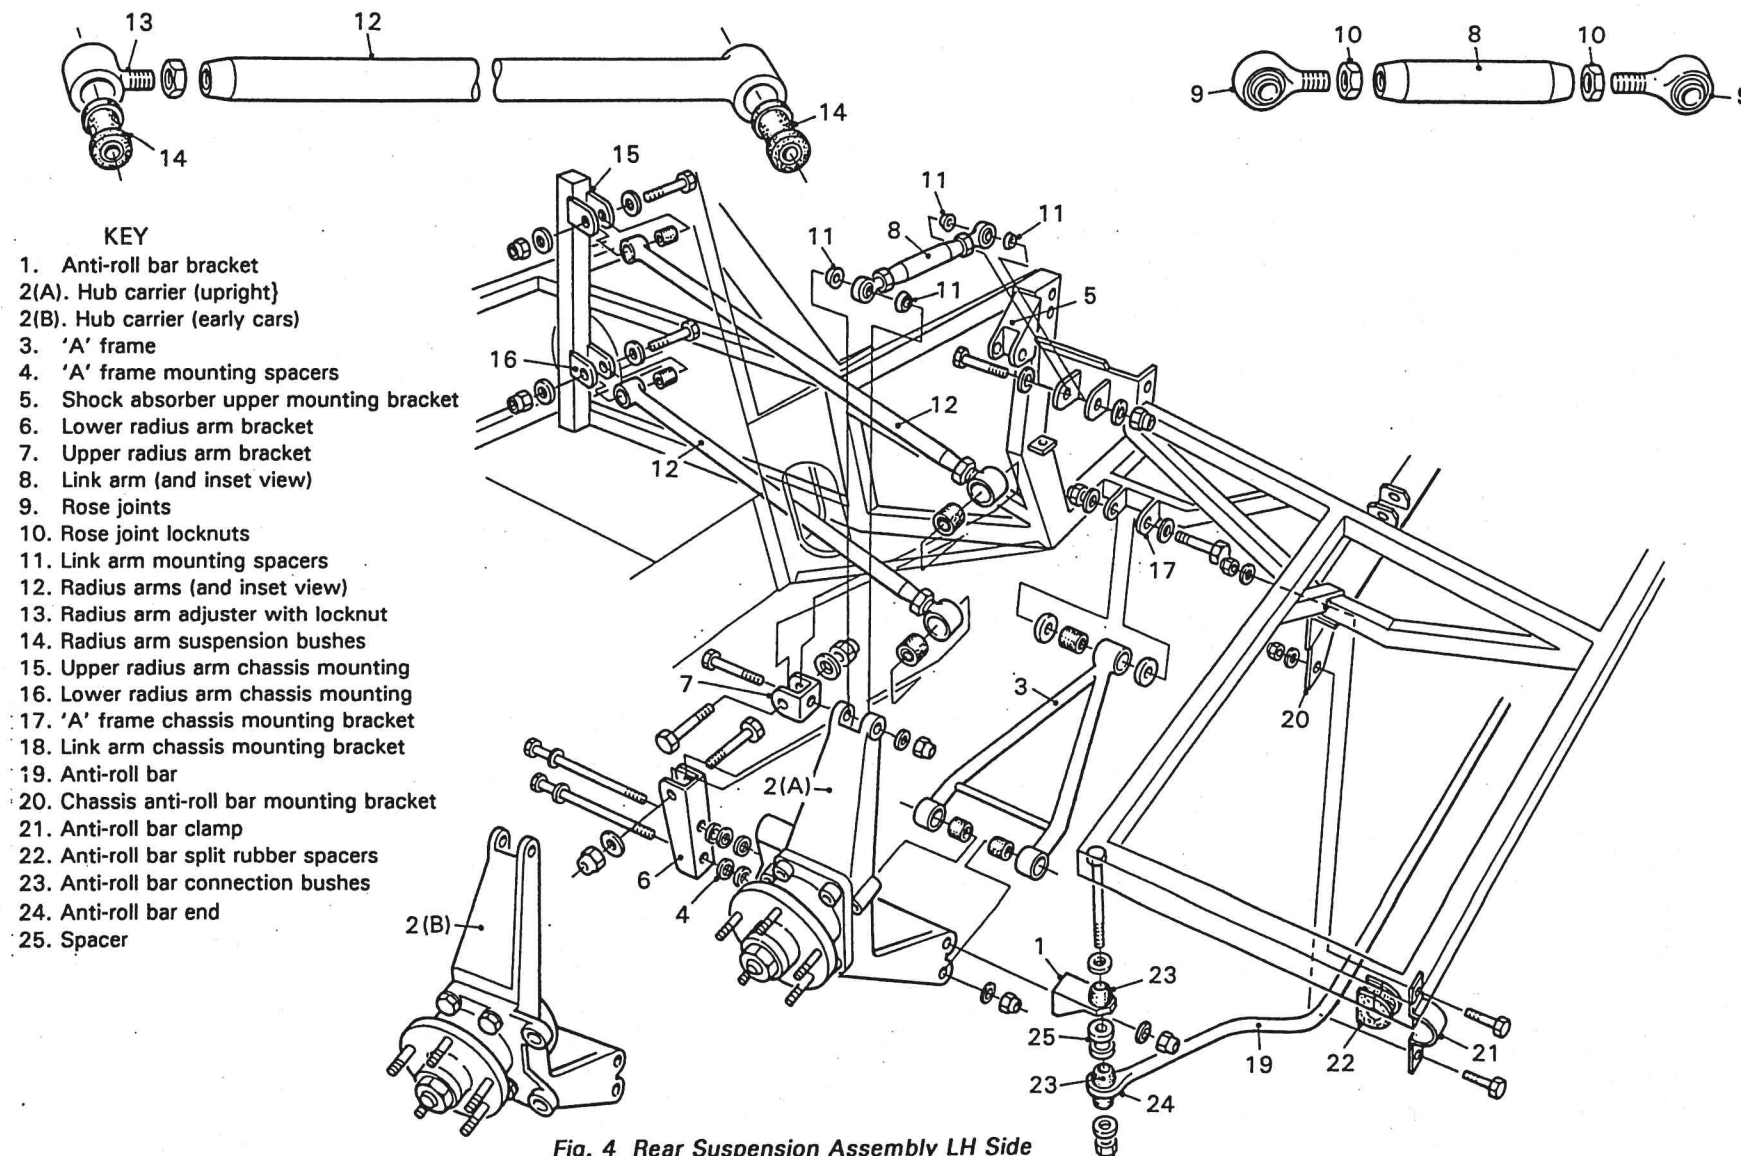

Fig. 4 Rear Suspension Assembly LH Side
6. Pull back any surplus pipe from the luggage compartment to the engine compartment. Route the pipe to the tee piece in the engine bleed pipe from the bypass tube to the header tank (refer to Assembly Stage 4 Op. 9 (Fig. 4)).